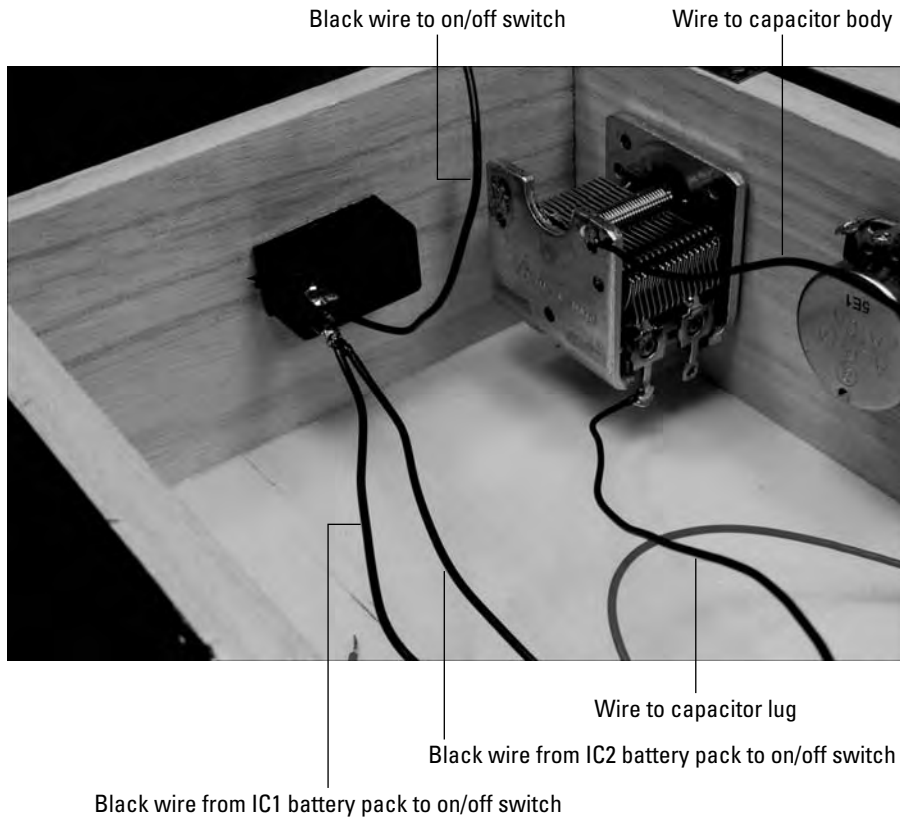

Figure 8-11:
11. Solder the black wire from each of the battery packs to one lug of the on/off switch and solder an 8" black wire to the remaining lug of the on/off switch, as shown in Figure 8-11.
12. Solder one 8" wire to a variable capacitor lug and solder one 8" wire to the metal body of the variable capacitor, as shown Figure 8-11.